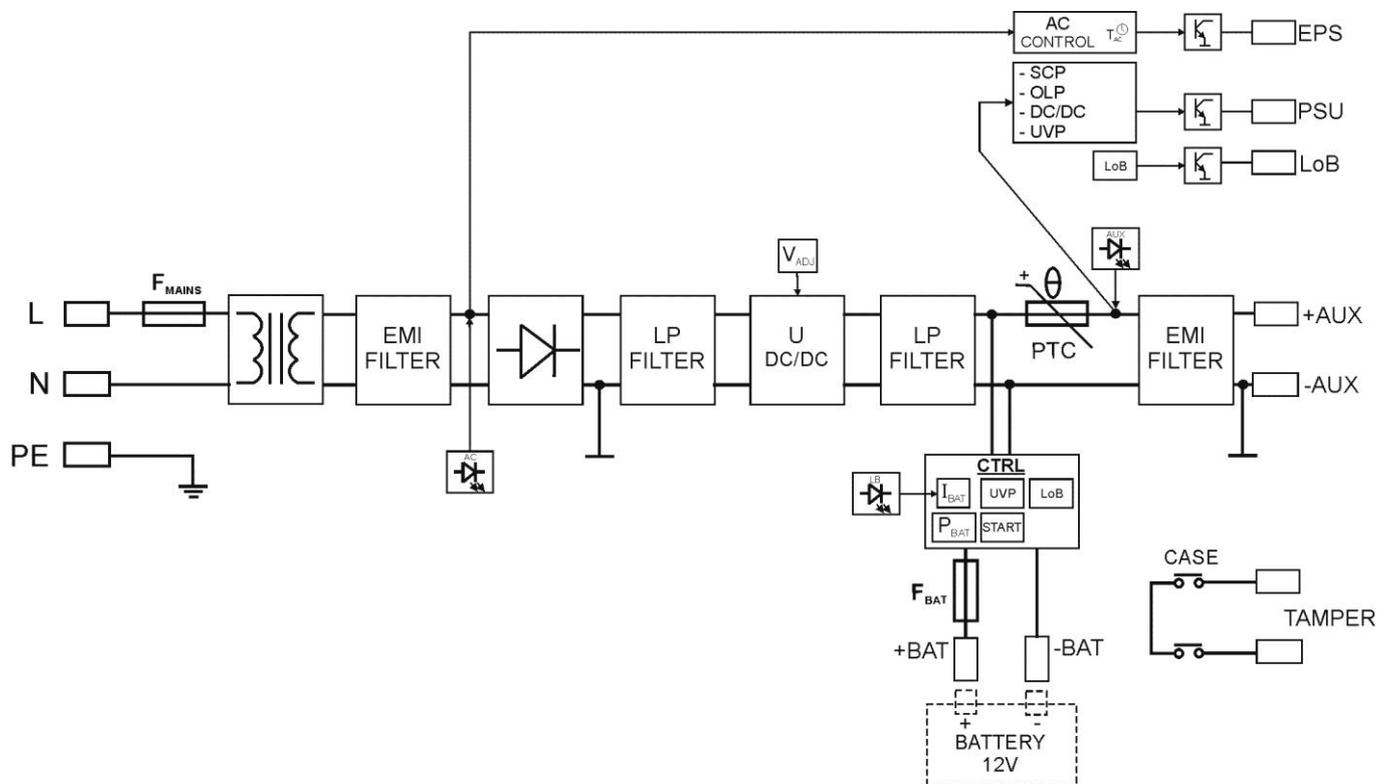

Fig.1. Block diagram of the PSU.
**1.2 Block diagram (Fig.1).**